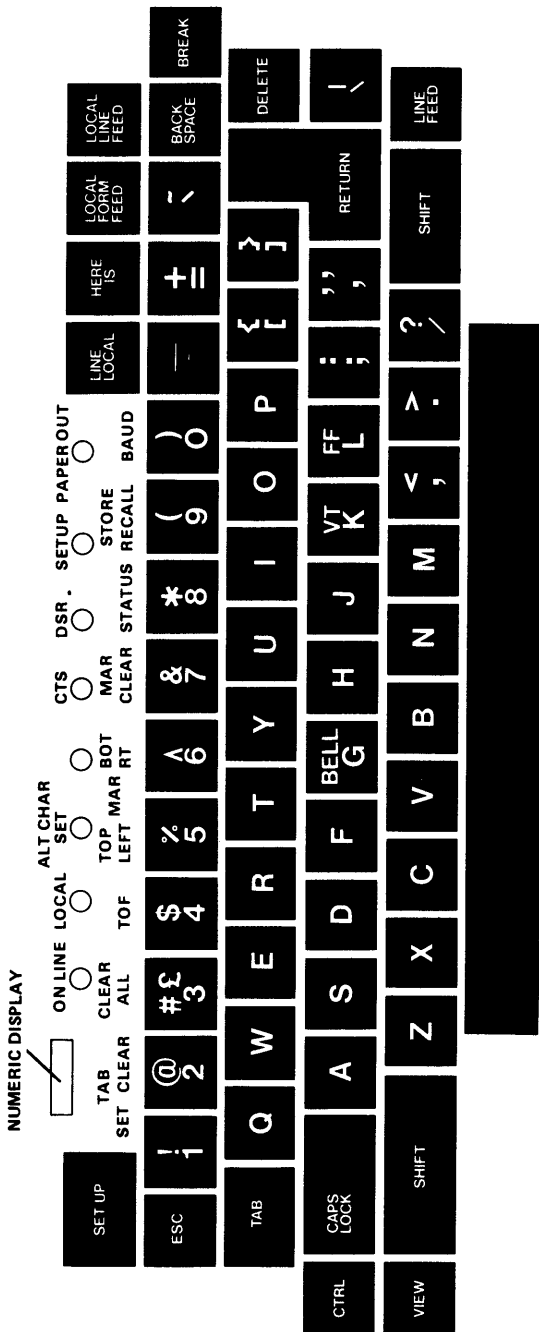

Figure 1-1 Operator's Console
1.2 OPERATOR'S CONSOLE (Figure 1-1)